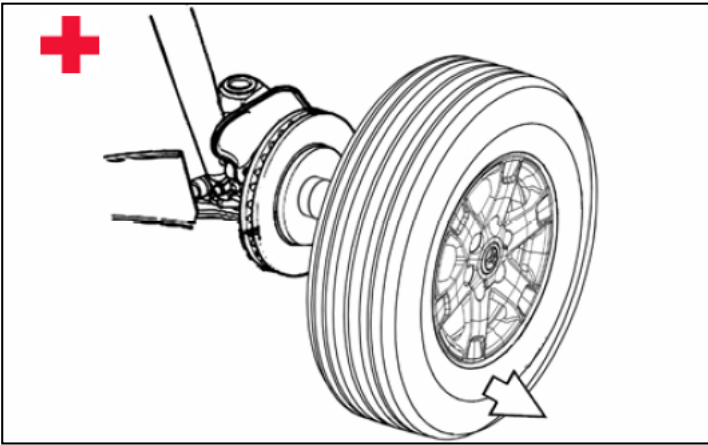

Figure 4a
- +** 4. Remove OE wheel and tire assemblies from the vehicle. Wear safety glasses while removing wheels. See Figure 4a.